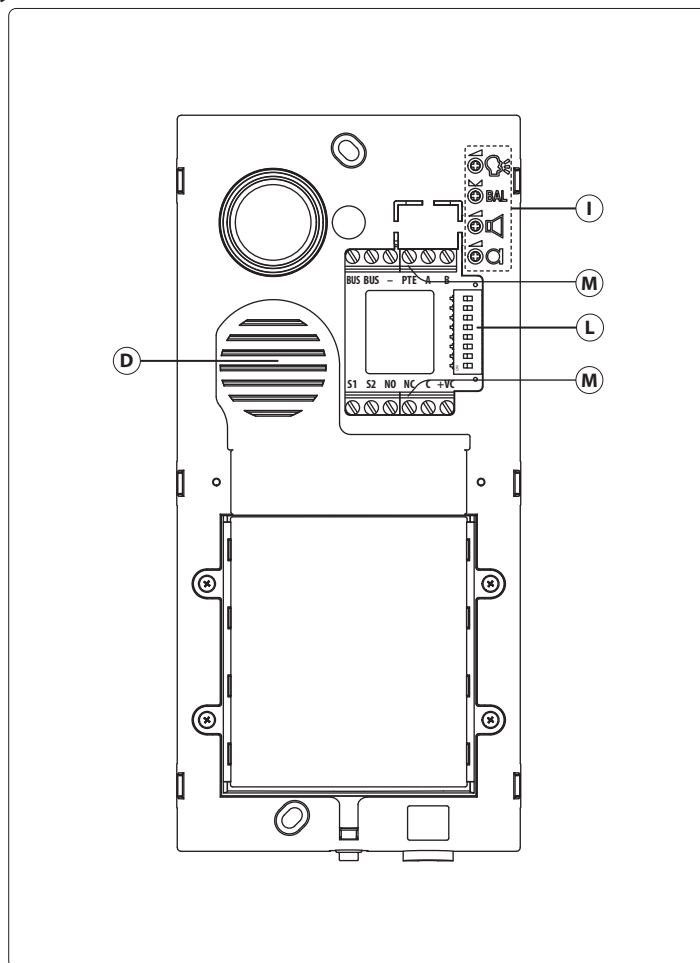

Fig. 2 Front view without frame
The adjustments (**Fig. 2** ①) are available by removing the front frame, see **"Wall mounting instructions" on page 14.**